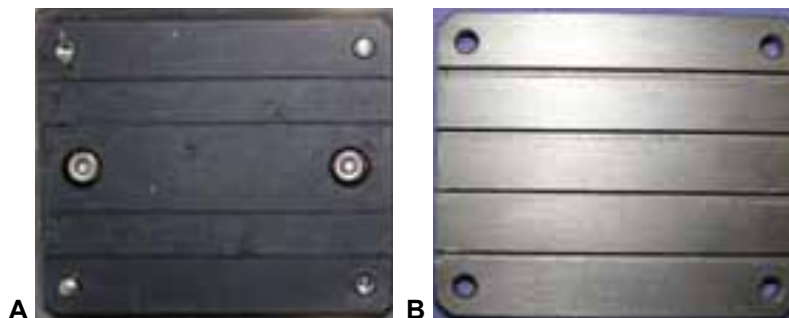

Fig. 16 Post column cooler
3. Guide the capillary through one of the nuts. For 0.5 mm capillaries use a nut in the inbuilt part (Fig. 16 A) and for 1/16" capillaries a nut in the front plate (Fig. 16 B).